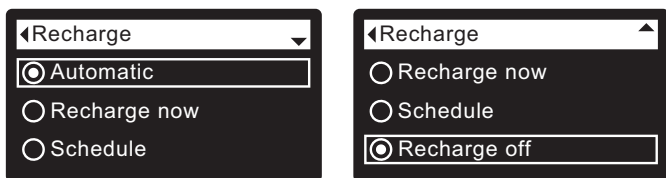
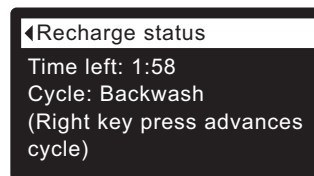

FIG. 39
FIG. 40
3. Press the SELECT (O) button to display the Recharge menu (See Figure 39).
4. If the desired option already has a dot next to it (See Figure 39), go to Step 5. Otherwise, press the DOWN (▼) or UP (▲) buttons to scroll to the desired option, then press SELECT (O) to choose it.
- **Recharge now** begins a recharge immediately after the SELECT (O) button is pushed again in Step 5.
5. Press the SELECT (O) button. If **Recharge now** is selected, the display immediately goes to the Recharge status screen (See Figure 40).